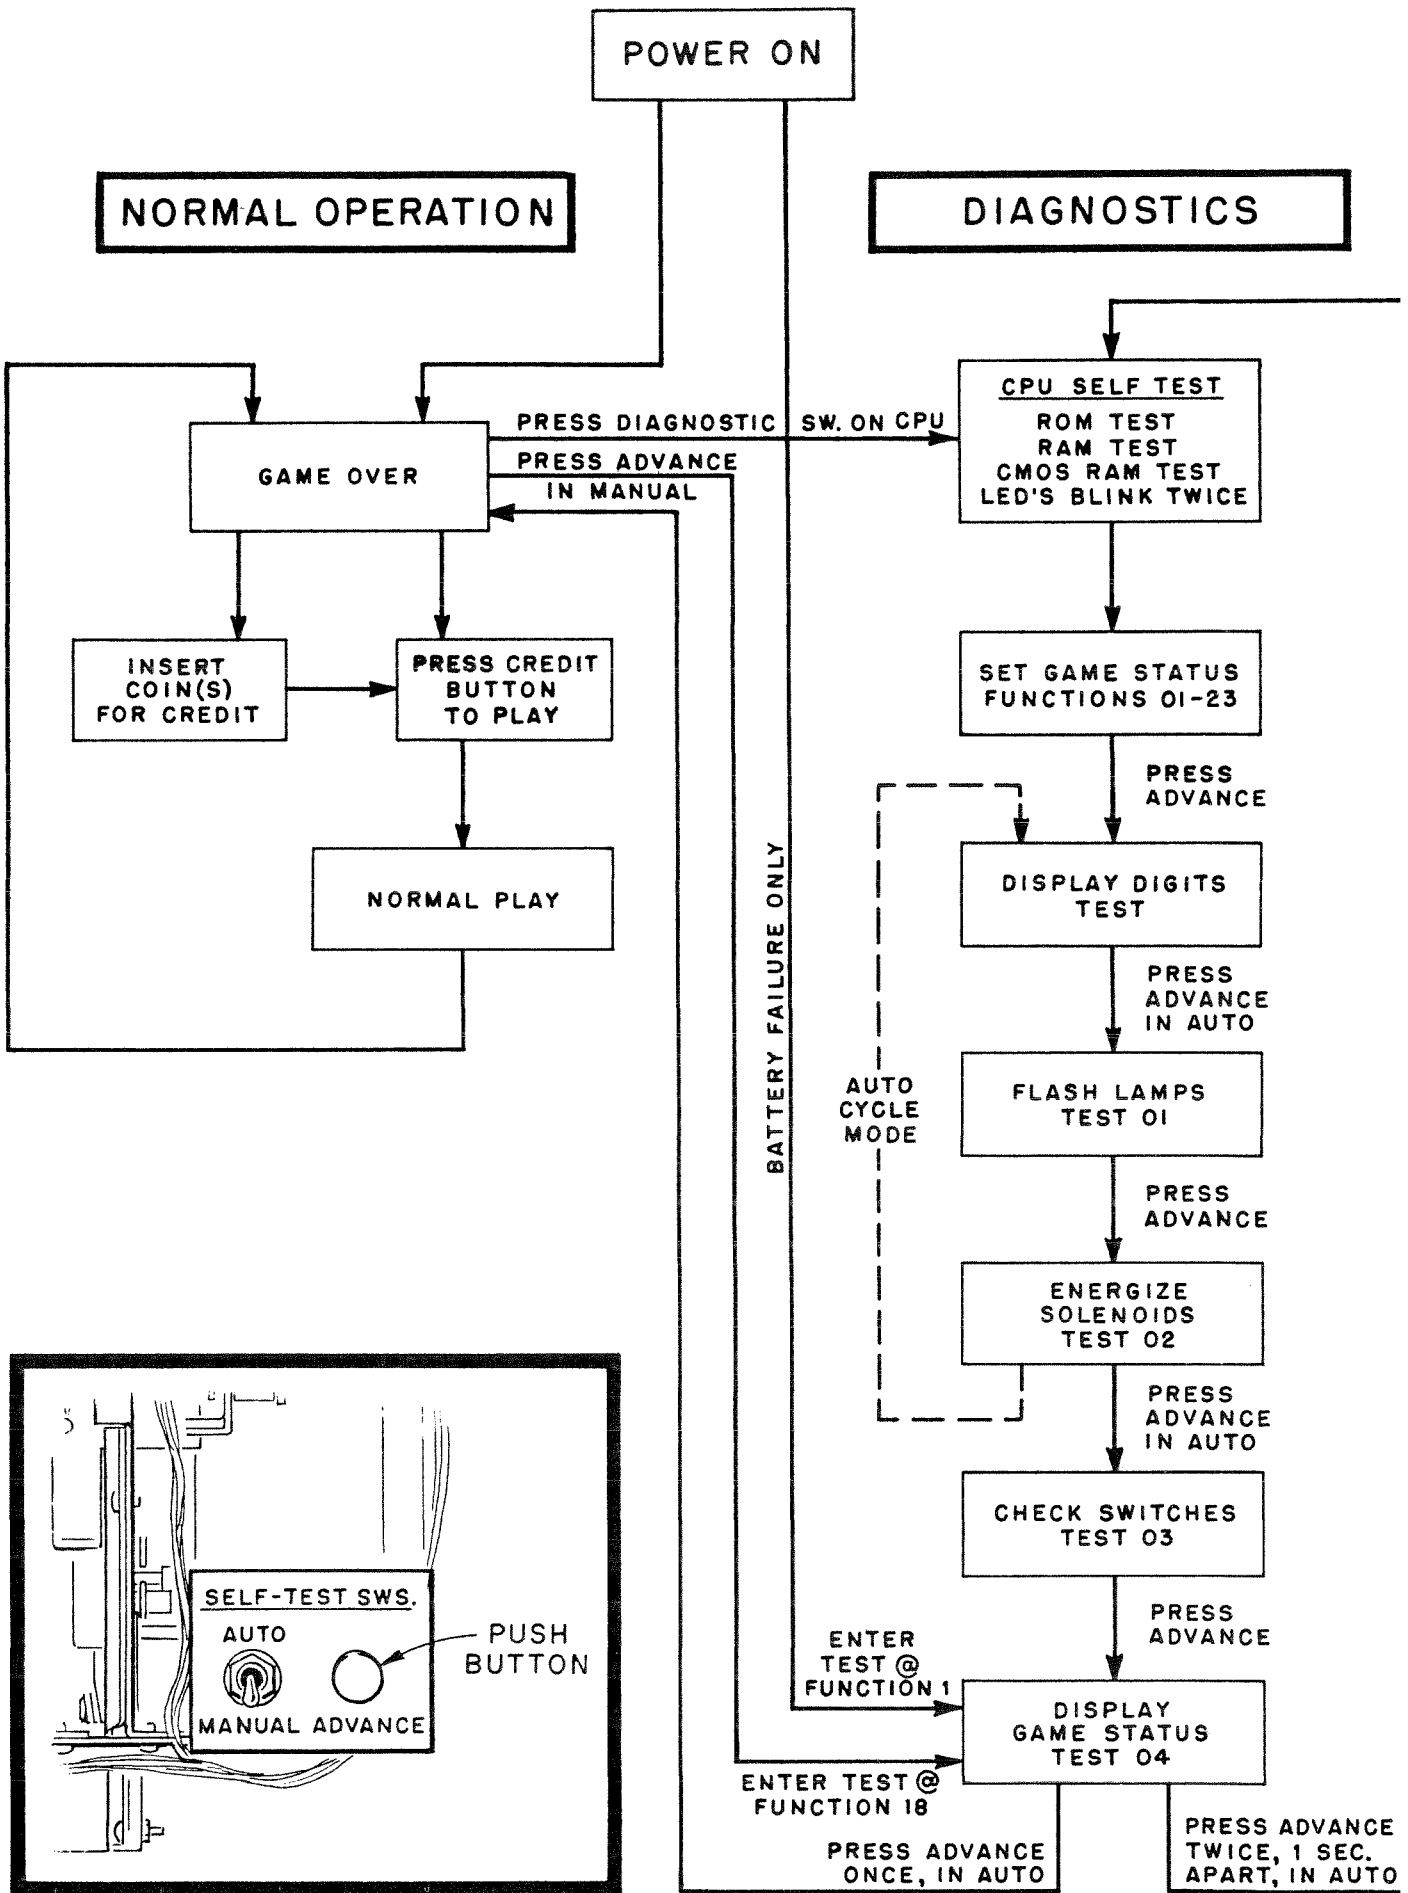

Figure 5
* There are specific subtests in these tests. The different ways to enter the diagnostics and normal game operation are shown in Figure 5. There is also an auto cycle test which will be discussed later.